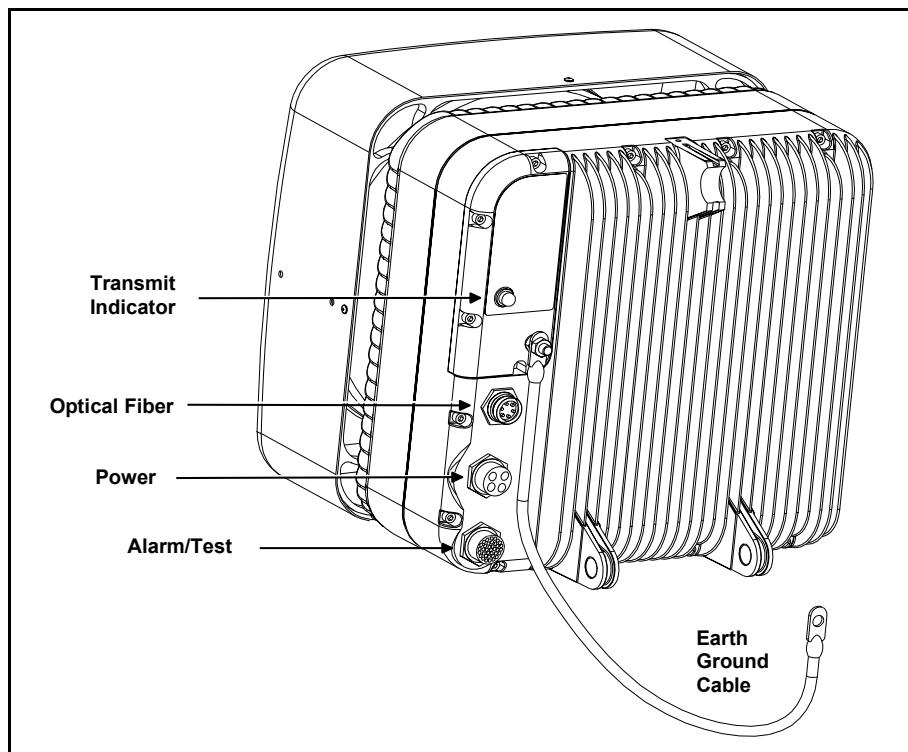

Figure 3-11. IFU Cable Connections
- 1 Connect the power and fiber optic cable to the IFU locations as shown in Figure 3-11.